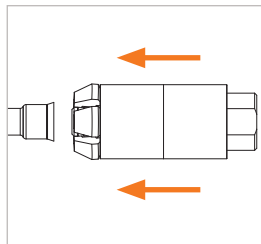
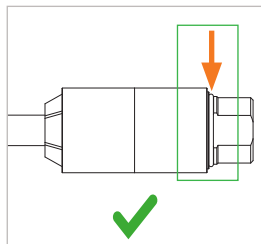
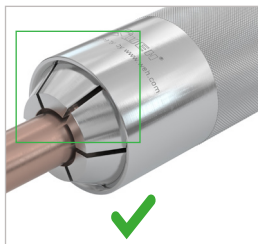
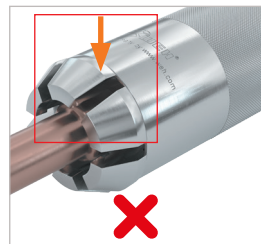

Figure 2
Figure 3
Figure 4
Figure 5
- ▶ Slide the connector's sliding sleeve forward (Pos. 1) onto the test piece (Figure 2). The connector must engage with a clearly audible click. The circlip must be visible (Figure 3) and the outer edges of the external diameter of the clamping jaws must no longer be visible (Figure 4 and Figure 5). The integrated shut-off valve, if provided, is pushed open by connecting the connector.